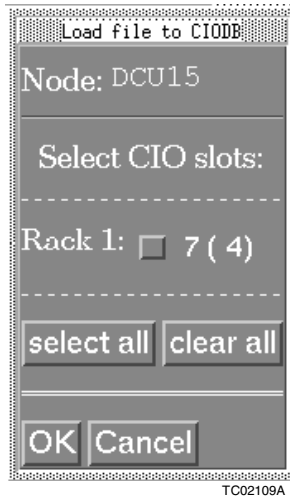

Figure 6-5. Load Database File Selection Window
4. Click *load*. A window will open similar to Figure 6-5.
In Figure 6-5 the Harmony DCU selected from the system status display was DCU15. DCU15 only has one rack and that rack contains only one DIO board. If there were two racks and more DIO boards, all would be shown on this window. The single DIO board in DCU15 is in slot seven, rack one. The logical number of the DIO board is shown in parenthesis after the slot number. The logical number of the DIO board is four.